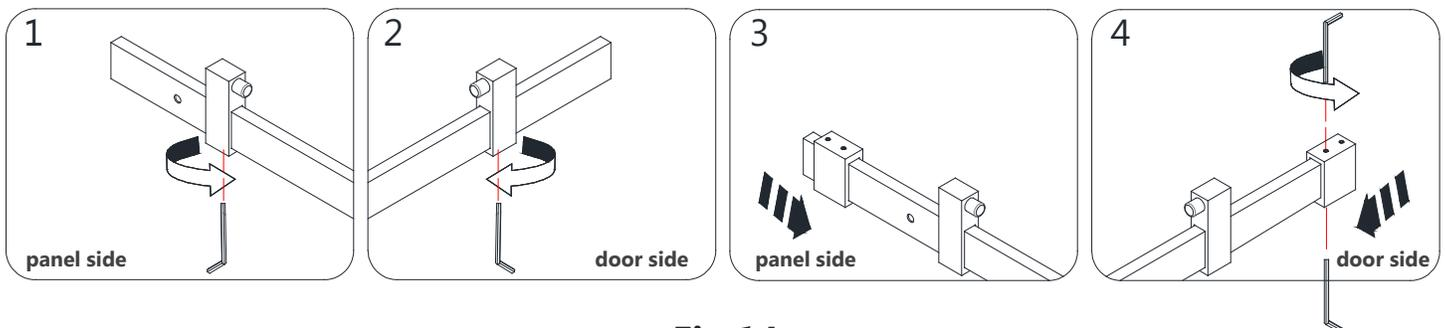

Fig 14
14. Attach the **Stoppers (#05)** and **Guide Rail Brackets (#06)** to both ends of the **Guide Rail (#04)**. Be sure to slide the panel side stopper (**Fig 14.1**) beyond the first glass holder hole. (**Fig 14**)